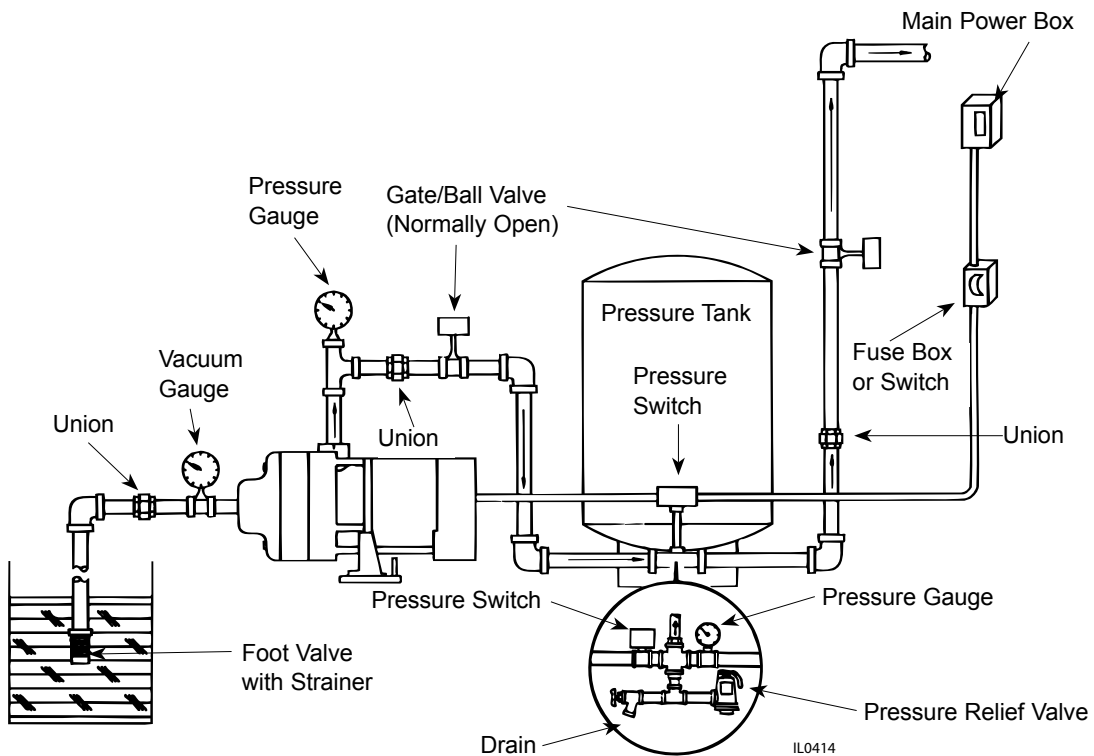

Figure 2
3. Where the pump is operating with suction lift and the suction line is equipped with a foot valve, remove the priming plug from the discharge tee (see Figure 2) and fill the pump body and suction pipe completely with water. No additional water will be needed for subsequent start-ups unless the pump body is drained.